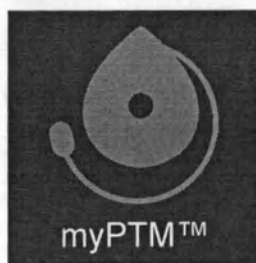

Figure 2. myPTM app icon.
2. From the handset main screen, tap to open the myPTM app icon (Figure 2).